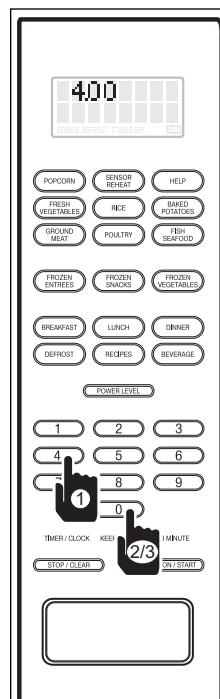

Figure 3-30.
1. Enter desired cooking or defrost time duration. For example: 4 minutes; press the number 4 key, then the number 0 key twice (See Figure 3-30), and the display will flash “4.00 - PRESS START - OR PRESS - POWER LEVEL”.